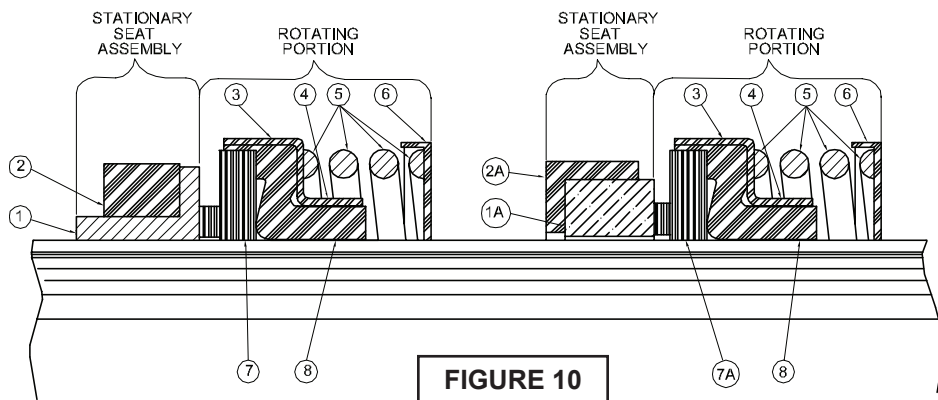

FIGURE 10
Install the seat assembly (1 and 2 or 1A and 2A, see Figure 10) (see section G-4), in the bottom of the pump side using P-80 rubber lubricant emulsion (from International Products Corp.) or SAE 10 non-detergent oil can be used, on the rubber parts. They may install easier by first inserting the rubber part and then sliding the seat part into the rubber. All of this must be done with the fingers only.
Carefully identify all the parts in figures 10 and 11, and familiarize yourself with their name parts. You will note that inner and outer stationary seats are identical. The rotating portion is held together with four clips (12) and masking tape. **DO NOT REMOVE THIS TAPE AND CLIPS** until the proper time of assembly. Cleanliness is of utmost importance. The carbon mating rings (10), (3), and ceramic seats (1) have been precision lapped and must not be scratched nor cracked during assembly. See Figure 12.